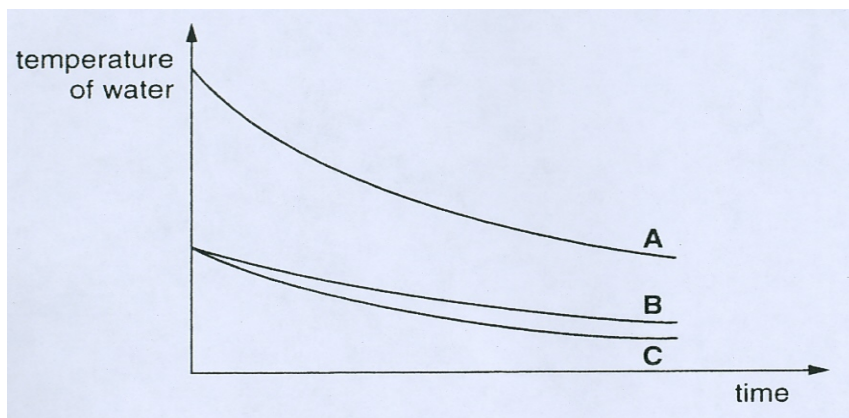

Fig. 1.2
- (c) Some of the students' results for insulating materials **A**, **B** and **C** are shown as a graph Fig. 1.2.
- (c) Some of the students results for insulating materials **A**, **B** and **C** are shown as a graph Fig. 1.2.